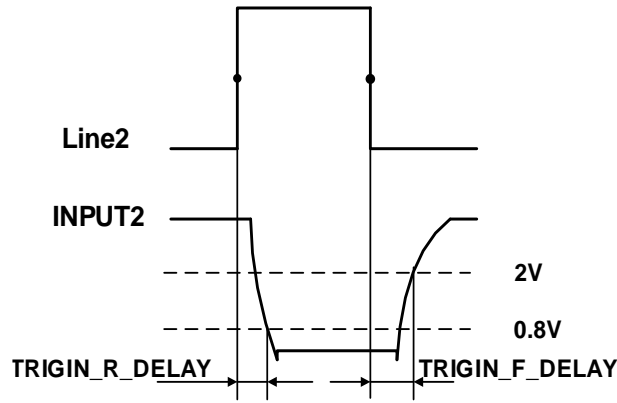

Figure 7-29 Parameter of Line2/3 input circuit
- Input rising time delay: $<2\mu\text{s}$ ($0^{\circ}\text{C}\sim 45^{\circ}\text{C}$), parameter description as shown in Figure 7-29
- Input falling time delay: $<2\mu\text{s}$ ($0^{\circ}\text{C}\sim 45^{\circ}\text{C}$), parameter description as shown in Figure 7-29